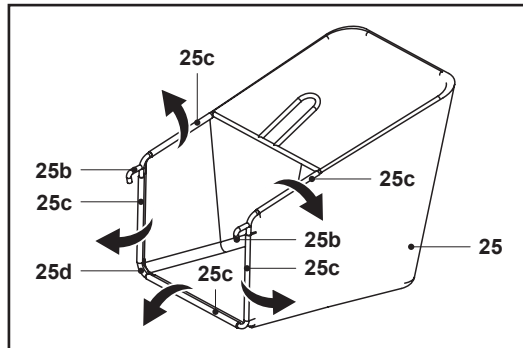

Fig. 4
1. Clip the rubber clips (25c) onto the supporting rod (25d) of the grass catcher (25) (Fig. 4) if not pre-assembled at delivery status.
2. The grass catcher (25) is now ready for use.